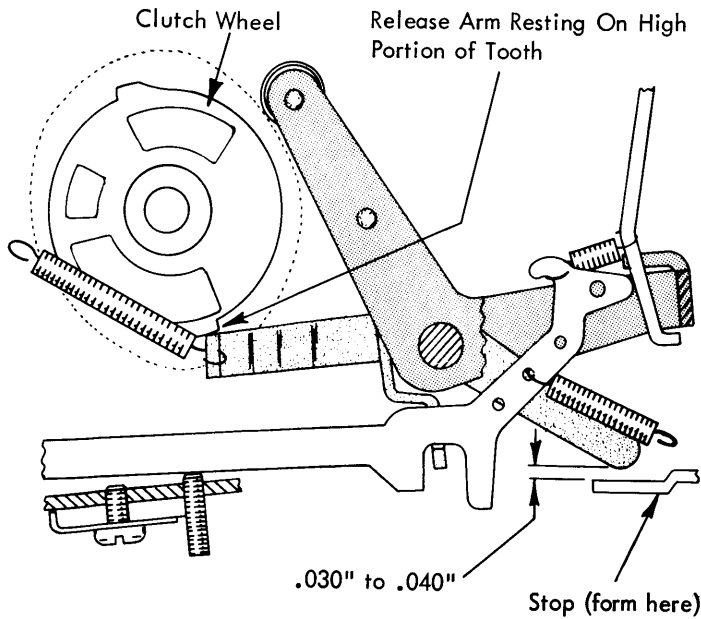

FIGURE 109. Clutch Release Arm Bite
6. **Clutch Release Arm Stops** - Form the adjustable stop lugs on the operational control bracket to control the amount of bite that each clutch release arm will take on its respective clutch wheel. This adjustment is observed by measuring the amount of clearance that exists between the stop lugs and the lower extension of each clutch release arm (when the release arm has released the clutch wheel and is resting against the high portion of the tooth on the clutch wheel). (Fig. 109). This clearance should be .030" to .040".